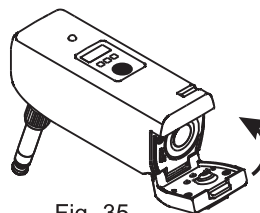

Fig. 35
(C) Carefully close the battery cover until the hinge is properly locked and secured, Fig. 35.
- (D) Keep the transmitter power off to preserve battery power after each use. Remove the battery when it will not be used for an extended period of time.